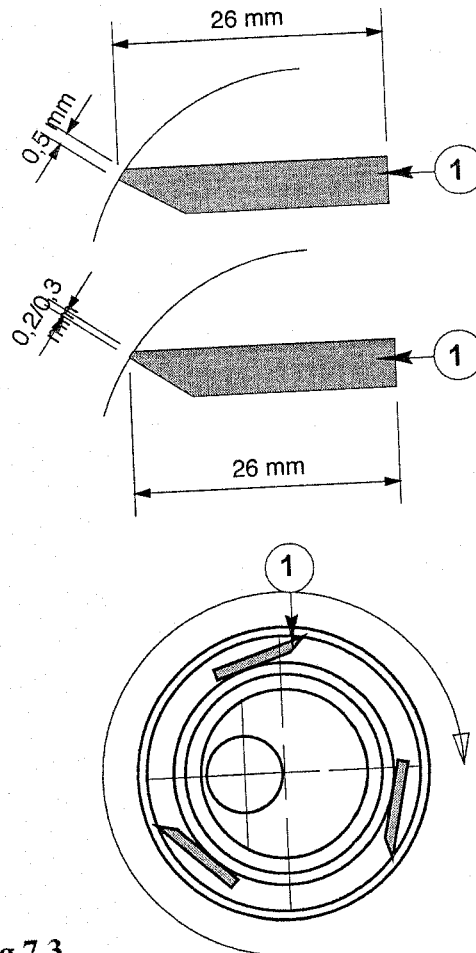

Fig.7.3
- **Scraper blades (Fig. 7.3)**
The blade may be sharpened, but this requires use of a special machine. The blade needs sharpening if the width of the cutting end exceeds 0.5 mm (Fig. 7.3).
After sharpening the thickness of the cutting edge must be about 26 mm (Fig. 7.3).
It is important to assemble the blades as shown in Fig. 7.3.